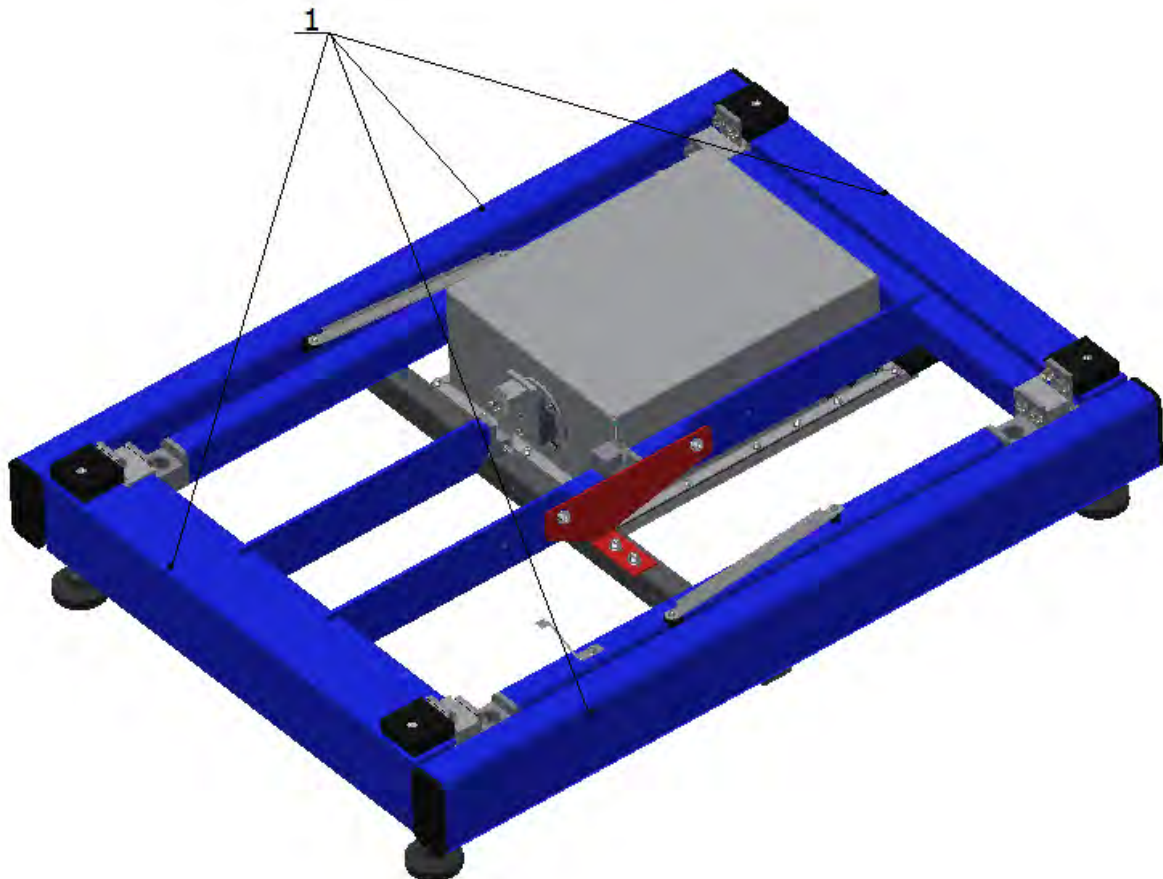

Fig. 1
1. When removing the scale out of its packaging make sure that you touch „OUTER FRAME (1)“ only. (Fig.1)